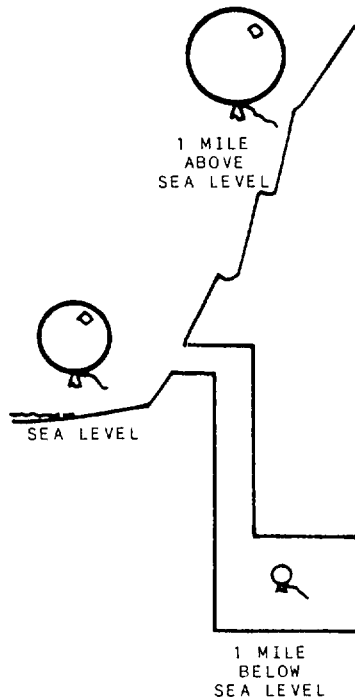

Figure 2-6.—Pressure differential in respect to sea level.
- Boyle’s law—when the temperature is held constant, an increase in the pressure on a gas causes a proportional decrease in volume. A decrease in the pressure causes a proportional increase in volume, as shown in figure 2-6. At sea level, the balloon has a given volume with respect to temperature and atmospheric pressure. As the balloon descends 1 mile below sea level, the volume of the balloon decreases due to increased atmospheric pressure. Conversely, as the balloon ascends to 1 mile above sea level, the balloon expands as the atmospheric pressure decreases.